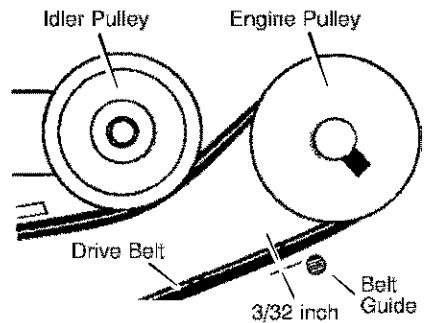

Figure 11
8. Set the belt guide to $3/32$ " clearance as shown in Figure 11.